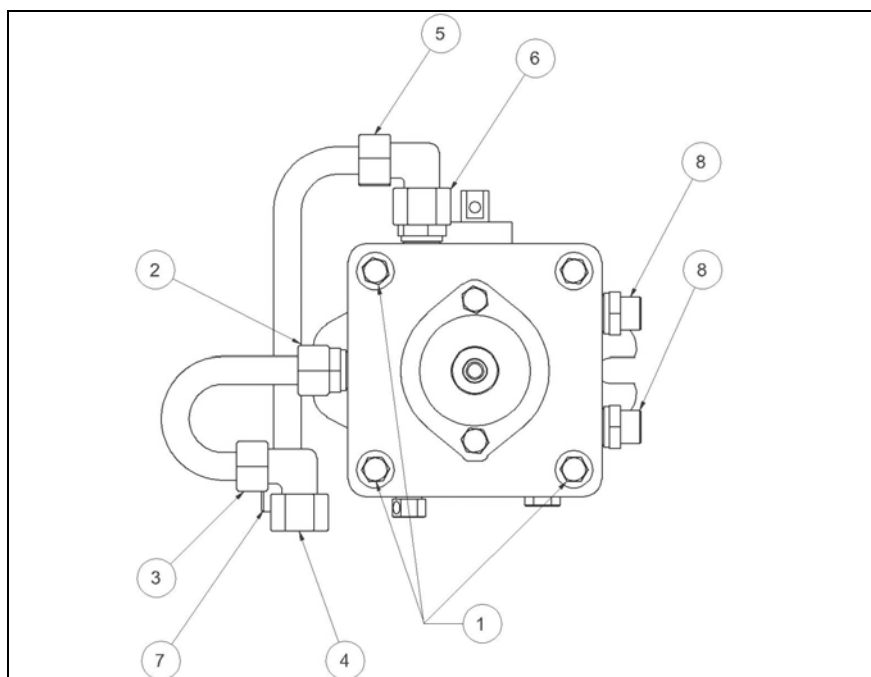

Fig. 32
- Remove the pulley and hydraulic drive from the cross welded piece (Fig. 32)